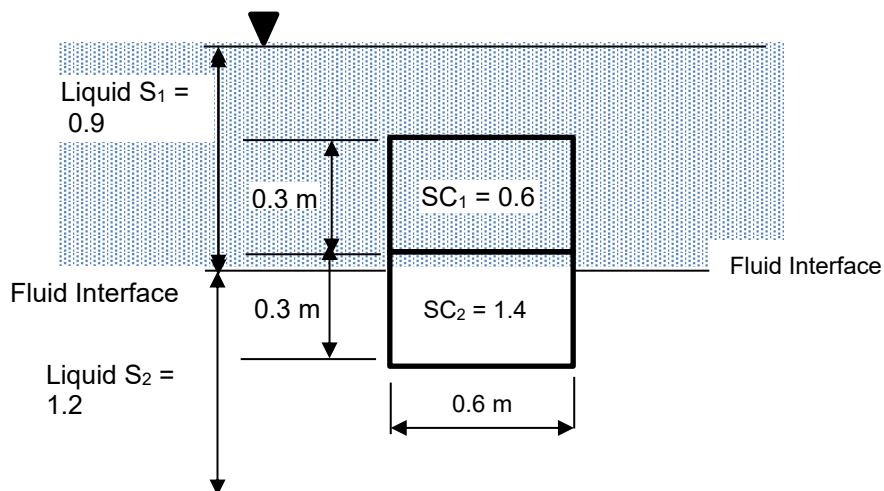

Figure 3
2. (a). A cube of 60 cm side is submerged in a two layer fluid with specific gravity liquid S_1 and S_2 , 0.9 and 1.2 respectively, as shown in **Figure 3**. The upper and lower halves of the cube are composed of materials with specific gravity SC_1 and SC_2 , 0.6 and 1.4 respectively. Determine the distance of the top of the cube above the fluid interface.